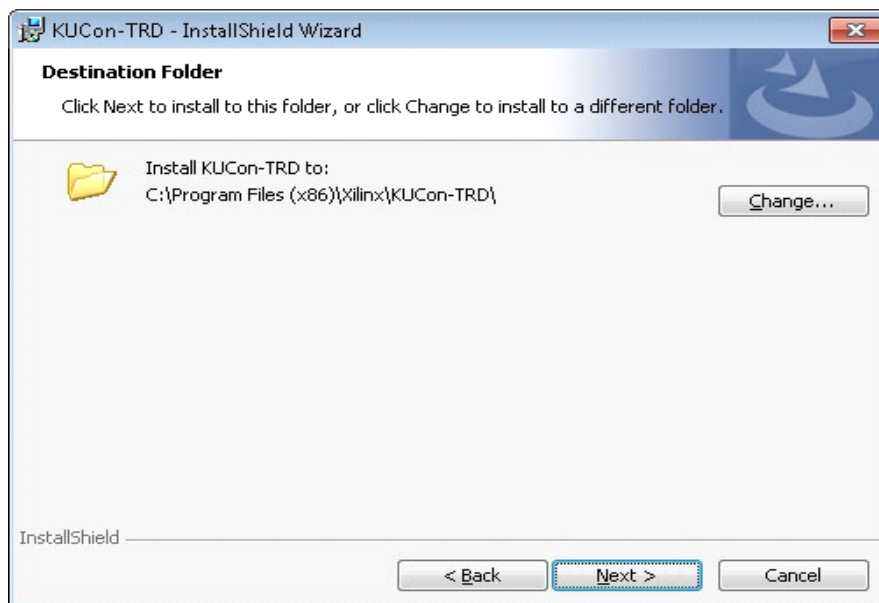

Figure 2-4: InstallShield - Destination Folder
- Click **Next** to install to the default folder or click **Change** to install to a different folder (shown in Figure 2-4).